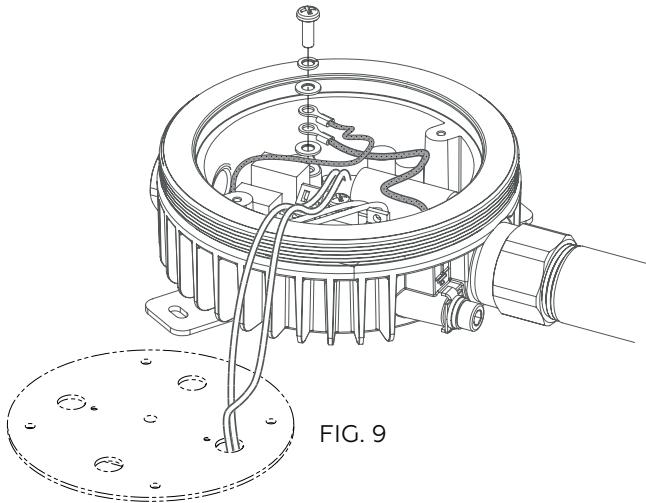

FIG. 9
5. For RV 120-277 VAC power supplies (OPTION #1 and OPTION #2), connect internal ground wire to ground screw-in type connector marked GROUND (See Fig. 9).